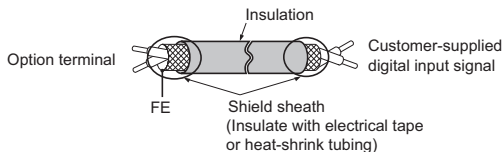
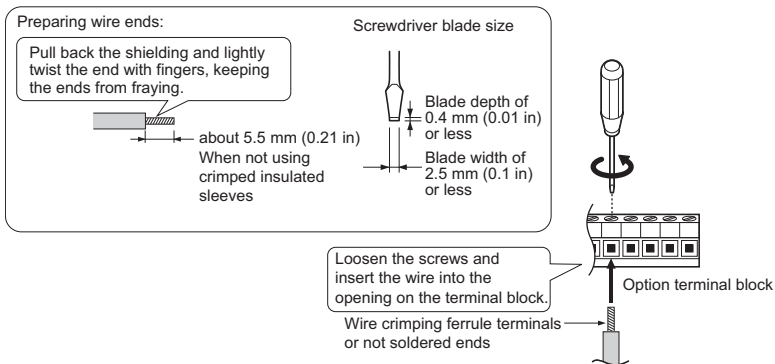

Figure 6 Prepare Ends of Shielded Cable
Figure 7 Connect Cable Wiring
2. The drive has only two ground terminal screw holes (I). Two ground wires should share the same ground terminal when connecting three options.
4. Prepare and connect the wire ends as shown in Figure 6 and Figure 7. Refer to Wire Gauges and Tightening Torques on page 39 to confirm that the proper tightening torque is applied to each terminal. Take particular precaution to ensure that each wire is properly connected and wire insulation is not accidentally pinched into electrical terminals.
5. Wire the customer-supplied digital input signal to the terminal blocks on the option according to Figure 7. Refer to Figure 26 for the DI-A3 Option connection diagram. Refer to Table 5 for a detailed description of the option terminal functions.